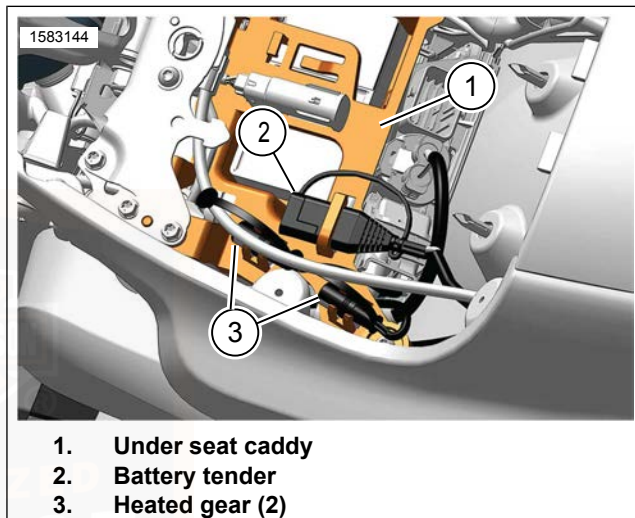
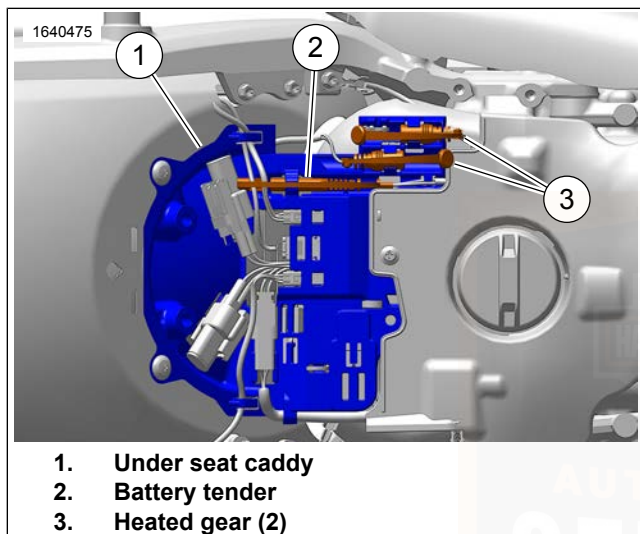

Figure 75. Under Seat (Top Mounted Fuel Tank)
Figure 76. Under Seat (Under Seat Fuel Tank)
See Figure 75 or Figure 76. Maintaining the battery between rides and while stored can maintain battery charge and extend the life of the battery. Connect the battery tender connector (2) to a battery tender during storage or to a battery charger if the battery voltage drops below specification. See Battery Maintenance (Page 160).